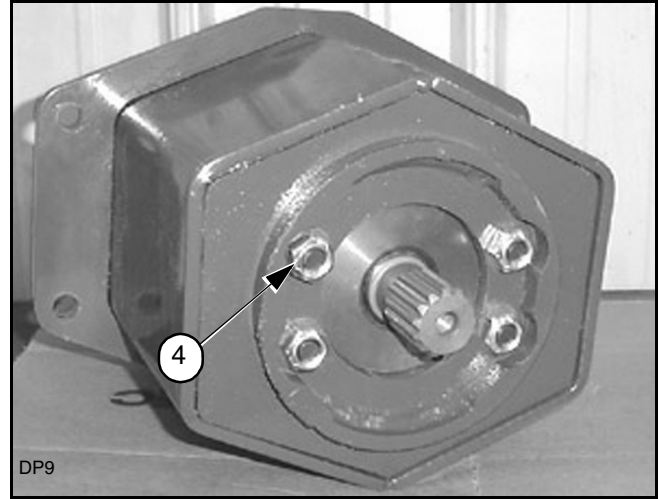

Figure 12.
Use an extension and a 1/2" twelve point socket to hold motor bolts from the inside and remove the four 1/2" nuts (4) from the bottom as shown in Figure 12.